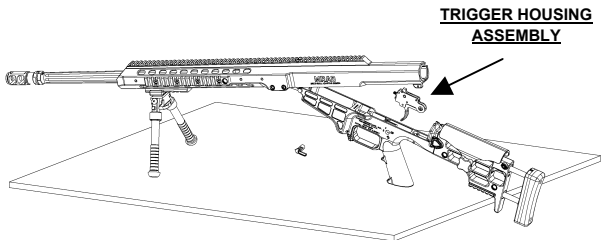

Figure 31.
3. Grasp the trigger housing assembly and slide the trigger housing assembly rearward away from the magazine well opening and lift out of the receiver. (*Figure 31.*)